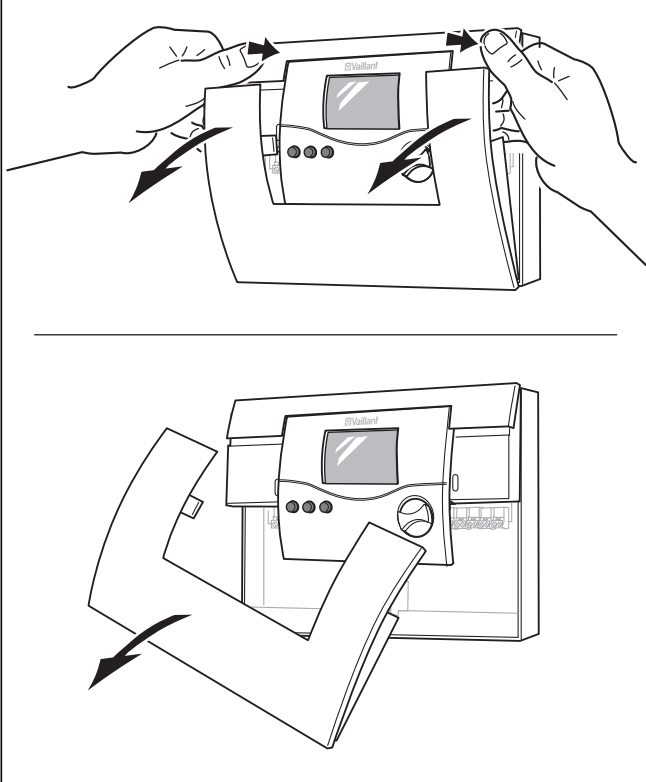

Fig. 4.2 Opening the controller housing
- Pull the lower front cover away from the controller housing, as shown in Fig. 4.2.